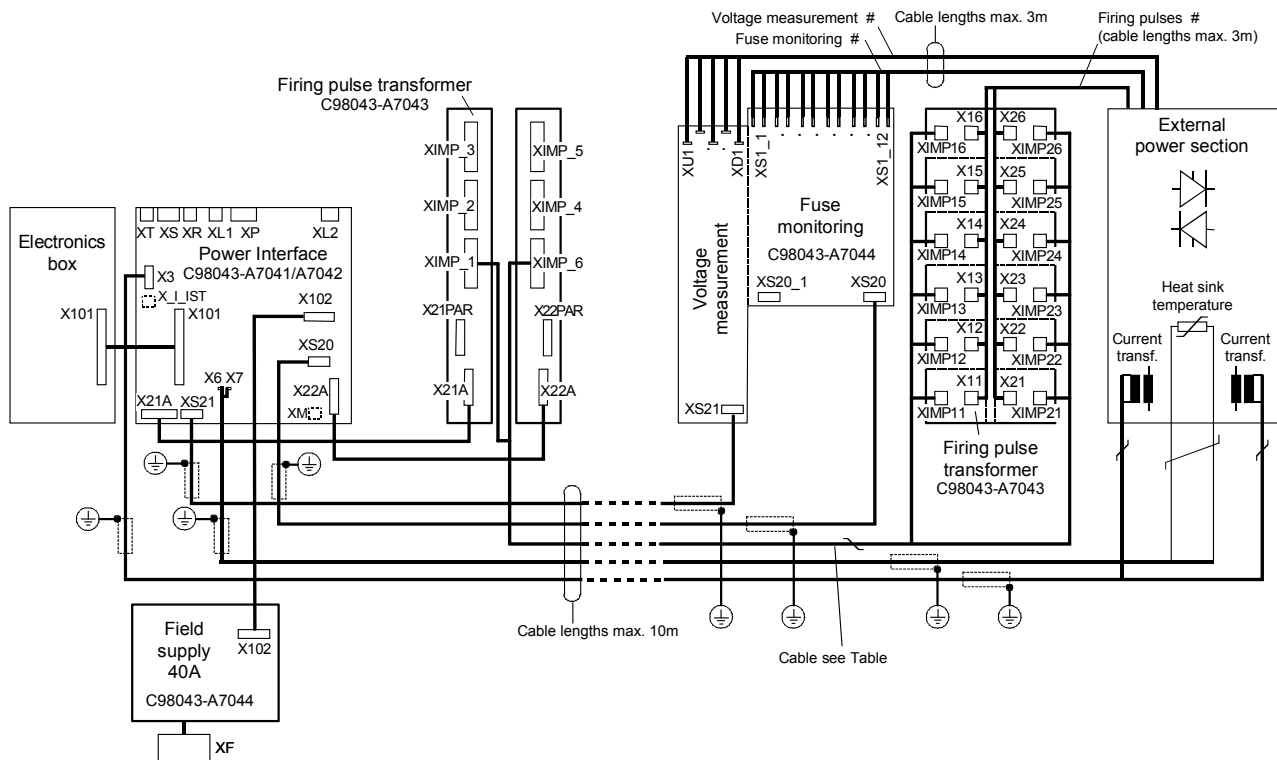

Fig. 6.4.3
3. Rear and front trough mounted one on top of the other or separately, modules C98043-A7043 C98043-A7044 separated (firing pulse transformer, voltage measurement, and fuse monitoring mounted with power section), field supply remains in trough (Fig. 6.4.3)